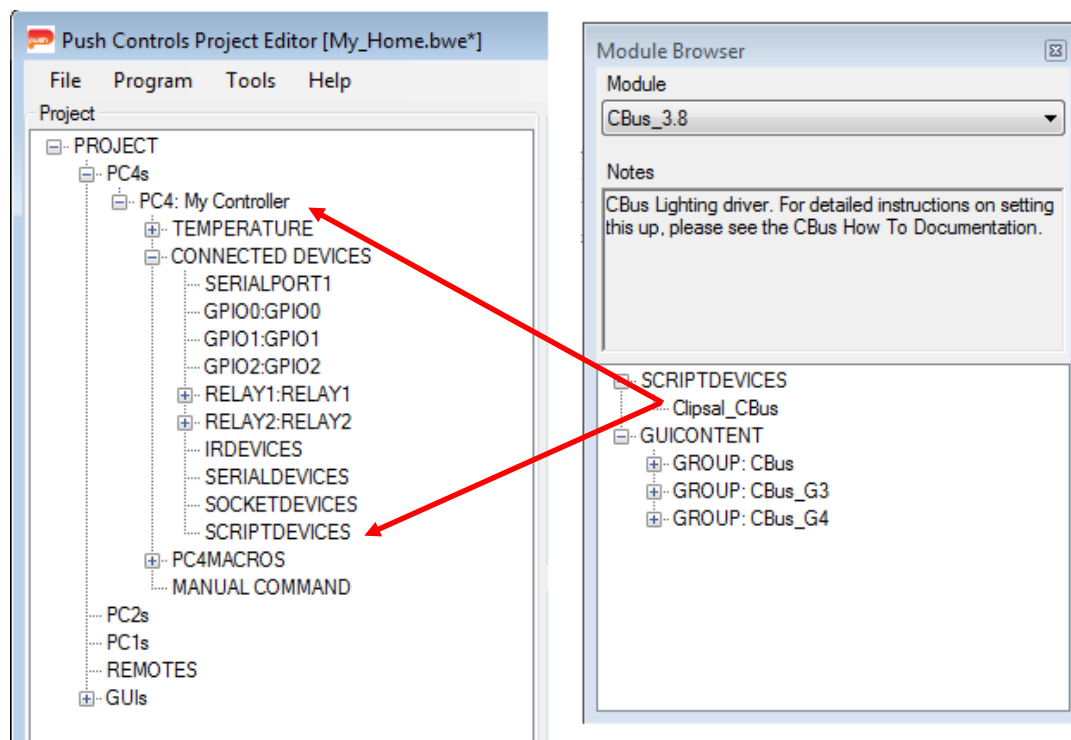

Figure 7 – Dragging and dropping script from the Module Browser window
The selected module will now appear in the module browser window (See Figure 7), where you can see everything that is included in the module.
Each of the elements contained in the module need to be dragged and dropped into their respective positions within the project. The items under the SCRIPTDEVICES category need to be dragged onto the desired controller. The GUICONTENT area can include POPUP or CONTENT and are imported in the following manner *Refer to Figure 7:*
- CONTENT requires an existing page to be dragged in to. To include content you can either drag it onto the page name (see Figure 7) or drag onto an open GUI page (hold down shift to drag the content to any position on the page). Some modules will have examples of a full page and will have '_P' or '_L' appended to the content name, which denotes Portrait or Landscape. To import whole page content a page needs to be made, which matches the resolution of the page being imported.